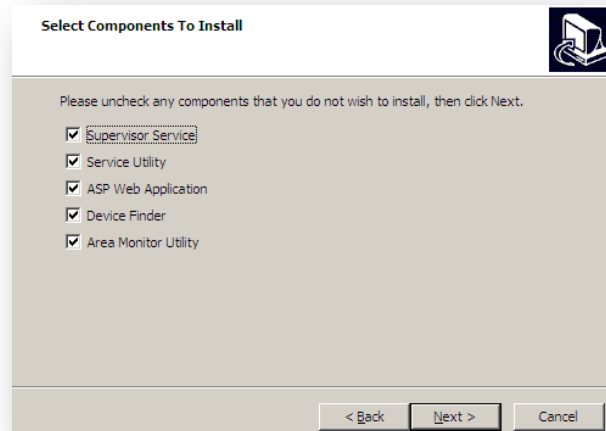

Figure 55 – Model 375 Web Page and Supervisor Service Installation (Select Components to Install)
3. From the SQL Server Installation Center click New installation or add features to an existing installation. See Figure 55.